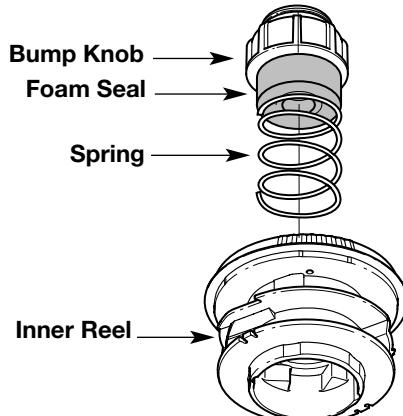

Fig. 22
1. Turn the Bump Knob counterclockwise and remove the bump knob, spring, and foam seal (Fig. 22).
2. Pull out the bump knob, spring, and foam seal (Fig. 22).
3. Pull the inner reel with existing line from the outer spool (Fig. 22).
7. Place the bump knob, spring, and foam seal into the inner reel (Fig. 22).